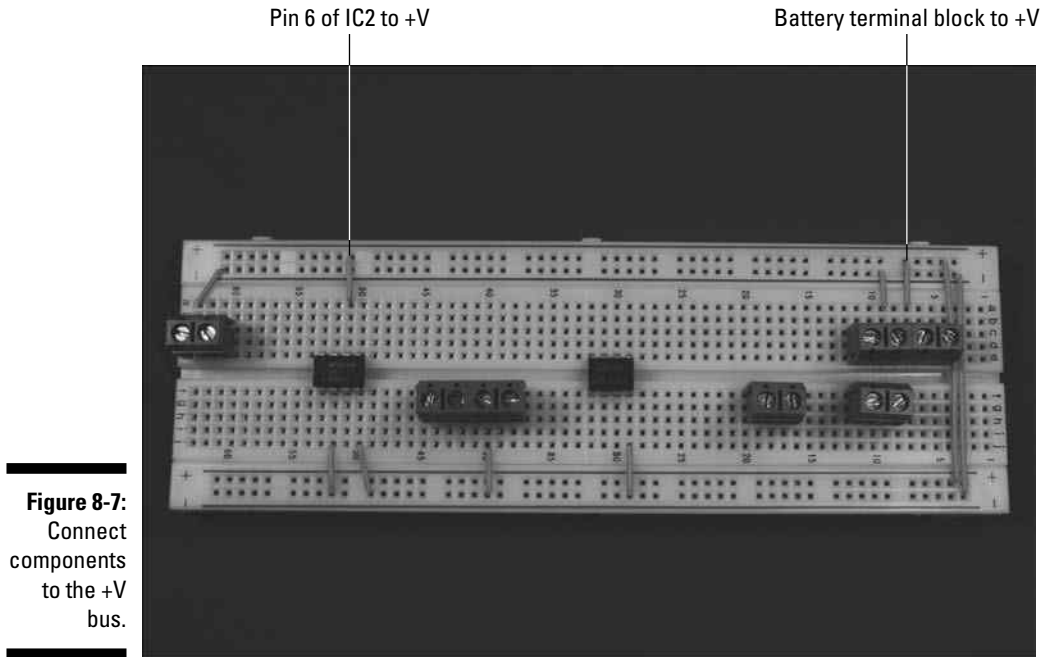

Figure 8-7:
3. Insert wires to connect IC2 and the terminal block for IC2's battery pack to the +V bus, and a wire between the two +V buses to connect them to each other, as shown in Figure 8-7.